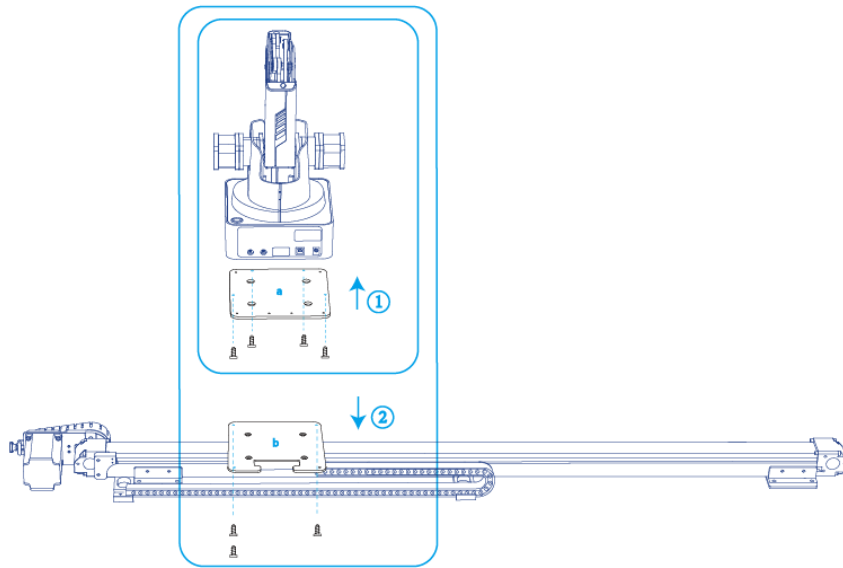

Figure 1.3 Fixed position with screws
**Step 2** Fix the plate **a** (with Dobot Magician) on the plate **b** with three M3\*8 hexagon socket head cap screws. Please make the back of the base of Dobot Magician towards the rabbet on the plate **b**, as shown in Figure 1.3.